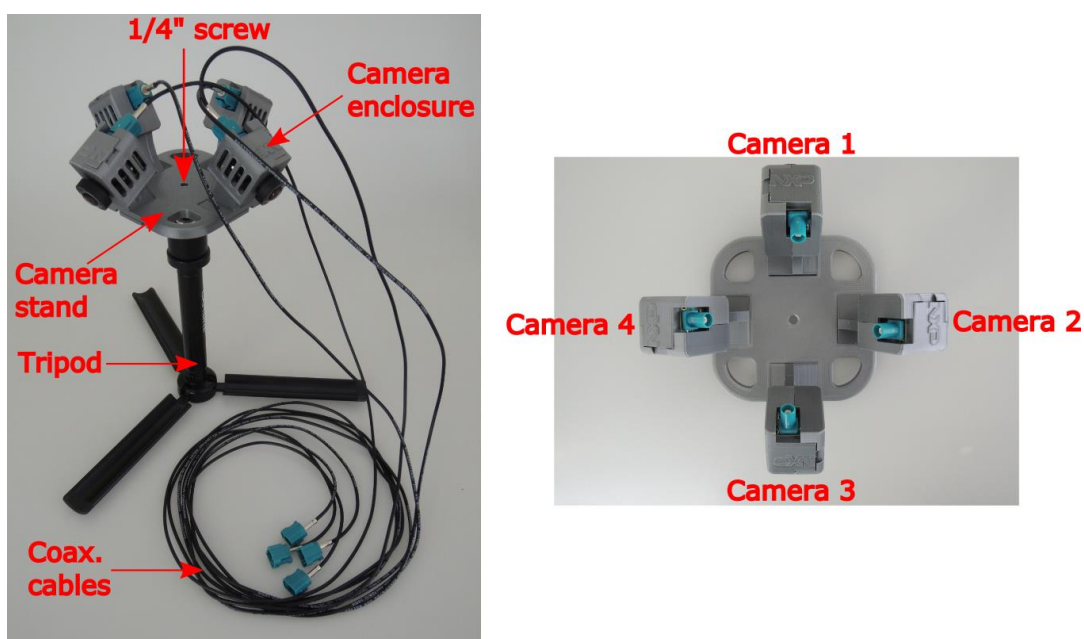

Figure 3. Camera system detail
- Screw the tripod to the camera stand using the built-in 1/4" tripod screw (see Figure 3).
that the next camera is housed on the right side to the previous camera (see Figure 3), not across them.